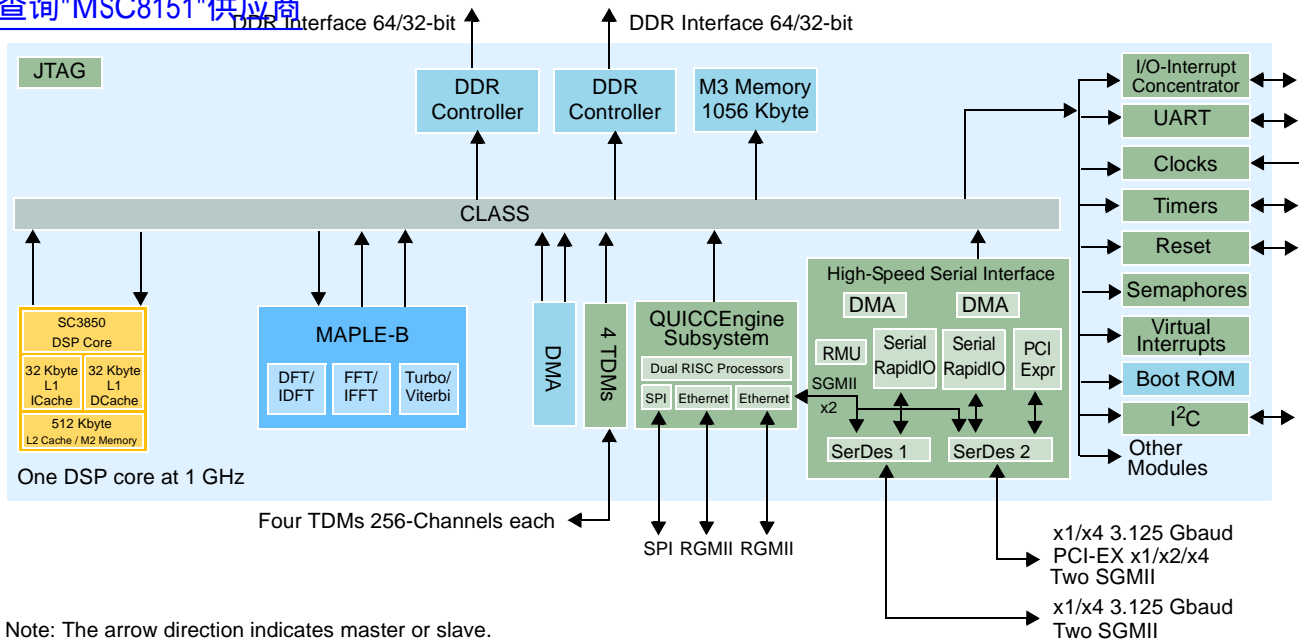

Figure 1. MSC8151 Block Diagram
- Figure 1. MSC8151 Block Diagram . . . . . 3